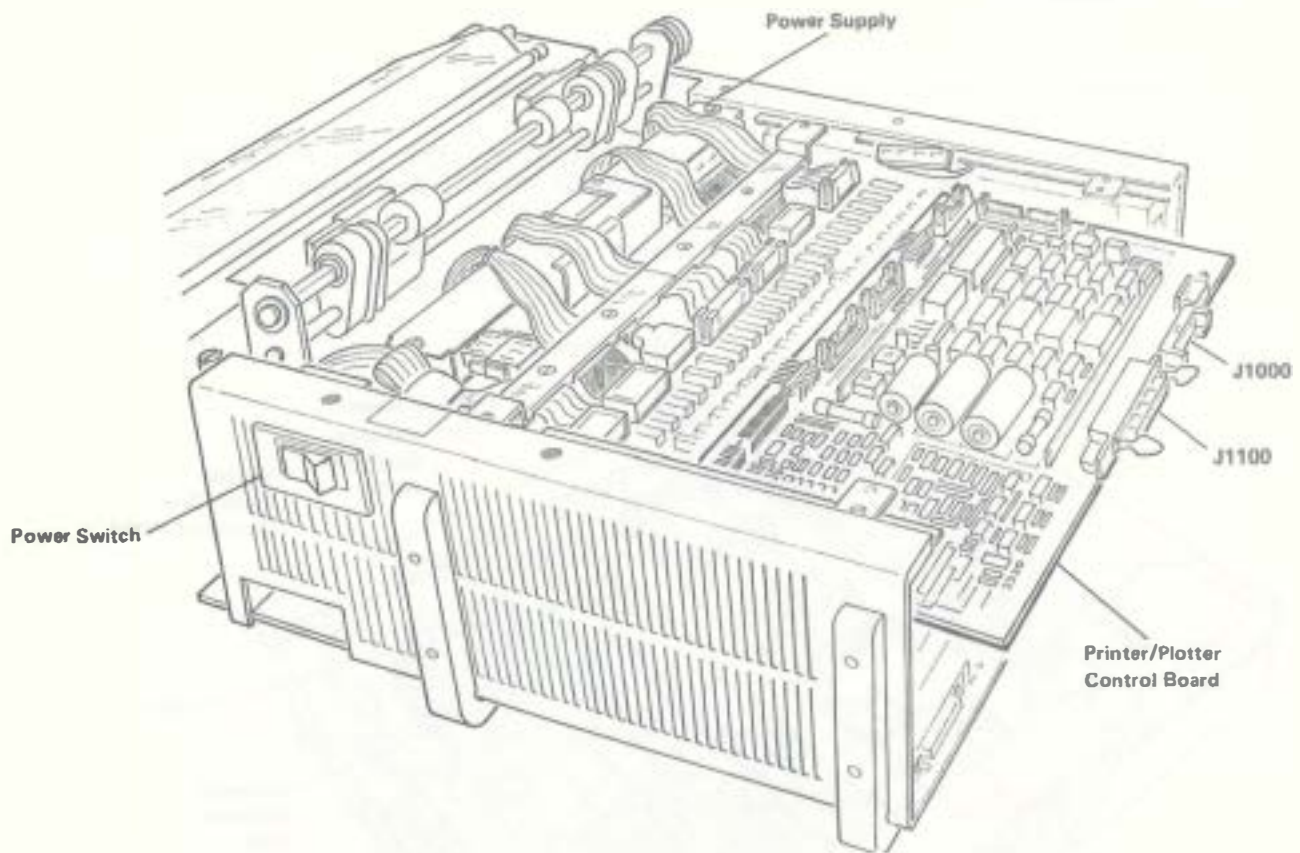

Figure 5-7. Printer/Plotter Control Board
3. Remove the printer/plotter control board by carefully sliding it toward the rear of the processor unit. See Figure 5-7.
1. Carefully slide the printer/plotter control board into the processor unit. See Figure 5-7. Be sure it is positioned properly.